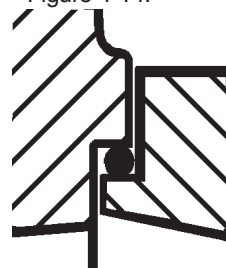
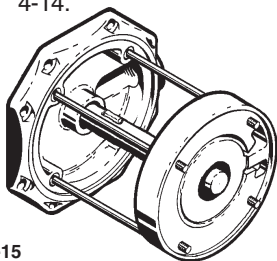

Figure 4-14
Figure 4-15
- c. With the "O"ring facing the inlet cover, slide the diffuser ring onto the guide rods so that it fits over the inducer impeller. Push on firmly until the "O" ring fits inside the lip in the inlet cover. Refer to Figure 4-14.
- e. With the "O" ring facing the motor end, slide the channel ring (#10) onto the guide rods with the water channel facing up. The large inlet opening should be on the same side as the pump inlet. Refer to figure 4-15. Push on firmly until the "O" ring fits inside the lip in the inlet cover (or diffuser ring). Refer to Figure 4-14.
- on firmly until the "O" ring fits inside the lip in the left hand channel ring. Refer to Figure 4-14.
- With the "O"ring facing the inlet cover, slide the diffuser ring onto the guide rods so that it fits over the inducer impeller. Push on firmly until the "O" ring fits inside the lip in the inlet cover. Refer to Figure 4-14.
- With the "O"ring facing the motor end, slide the channel ring onto the guide rods with the water channel facing up. The large inlet opening should be on the same side as the pump inlet. Refer to figure 4-15. Push on firmly until the "O"ring fits inside the lip in the inlet cover (or diffuser ring). Refer to Figure 4-14.